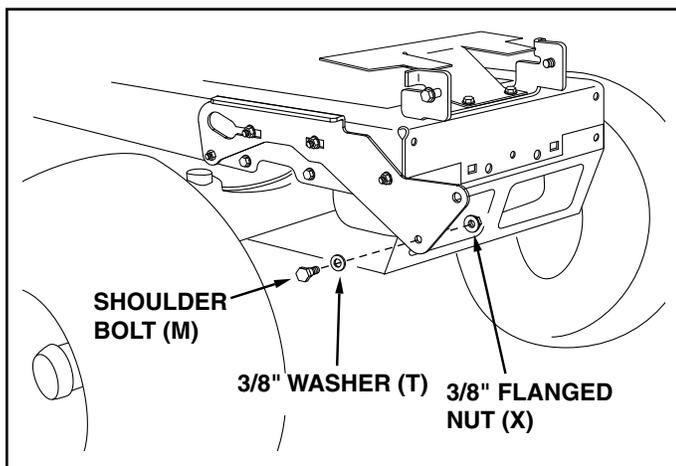

FIGURE 4 RIGHT SIDE VIEW
STEP 4: (SEE FIGURE 4)
- Install a shoulder bolt (M), a 3/8" washer (T) and a 3/8" flanged lock nut (X) in the R.H. (21) and L.H. (20) Side Plates.